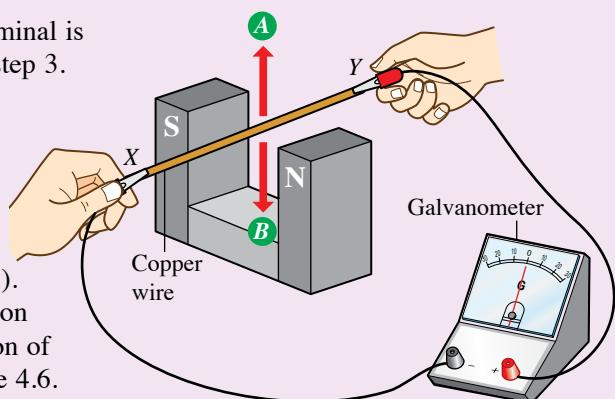

Figure 4.25
- Remove the dry cell from the circuit and replace with a piece of thick copper wire. Place the thick copper wire between the pair of Magnadur magnets as shown in Figure 4.25.